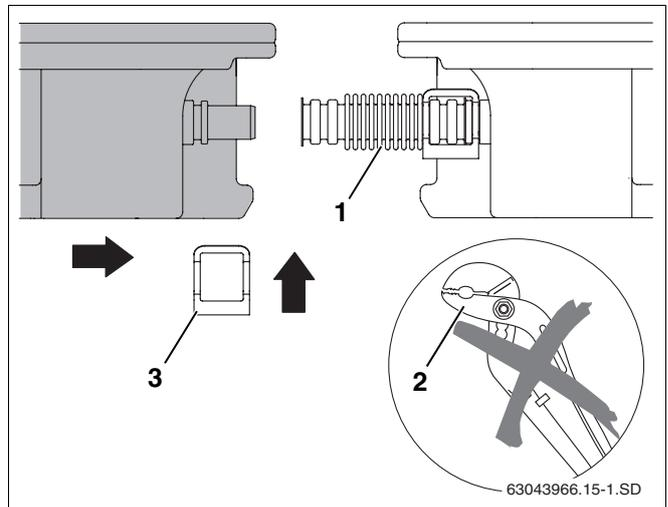

Fig. 49 Pushing second collector towards the first
- ▶ Do not use any tools, e.g. pliers (Fig. 49, **Item 2**). These could render the corrugated pipe connector unusable.
- ▶ Push the second collector on to the first in such a way that the collector connections are pushed into the preassembled corrugated pipe connectors (Fig. 49, **Item 1**) on the first collector.
- ▶ Place second bracket (Fig. 49, **Item 3**) over the corrugated pipe connector and collector connection.